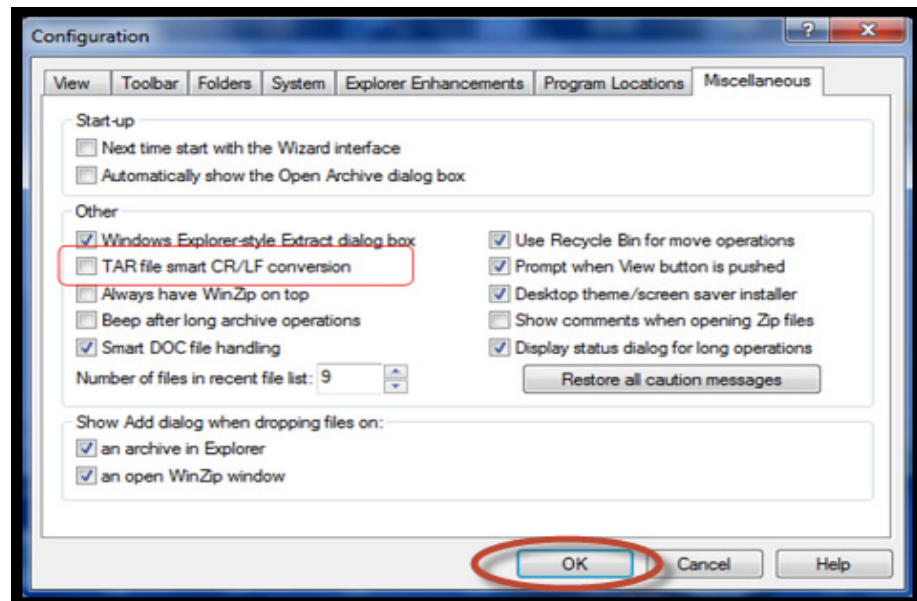

Figure 117 Clearing the TAR file smart CR/LF conversion checkbox
4. Clear the **TAR file smart CR/LF conversion** checkbox, and then click **OK**, as shown in Figure 117 on page 92. The box will remain unchecked until it is selected again, or WinZip is reinstalled.